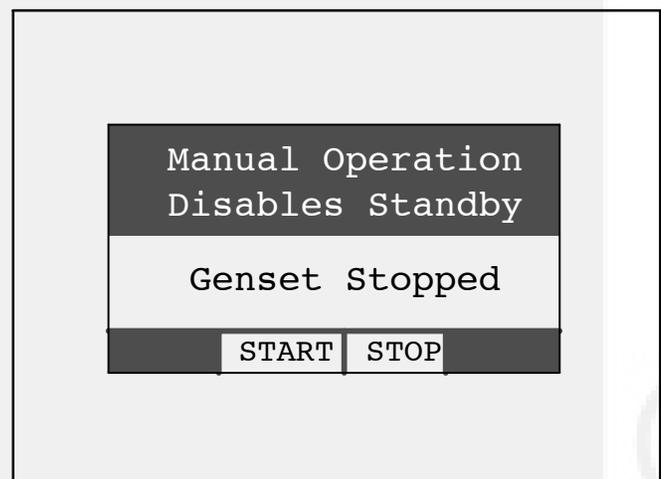

FIGURE A-4. GENSET START/STOP SCREEN
1. Press the START STOP button on the Operator Panel (Figure A-1), which takes you to the Gen-set START/STOP screen (Figure A-4). The screen will display "Genset Stopped" or "Genset Running," as appropriate.